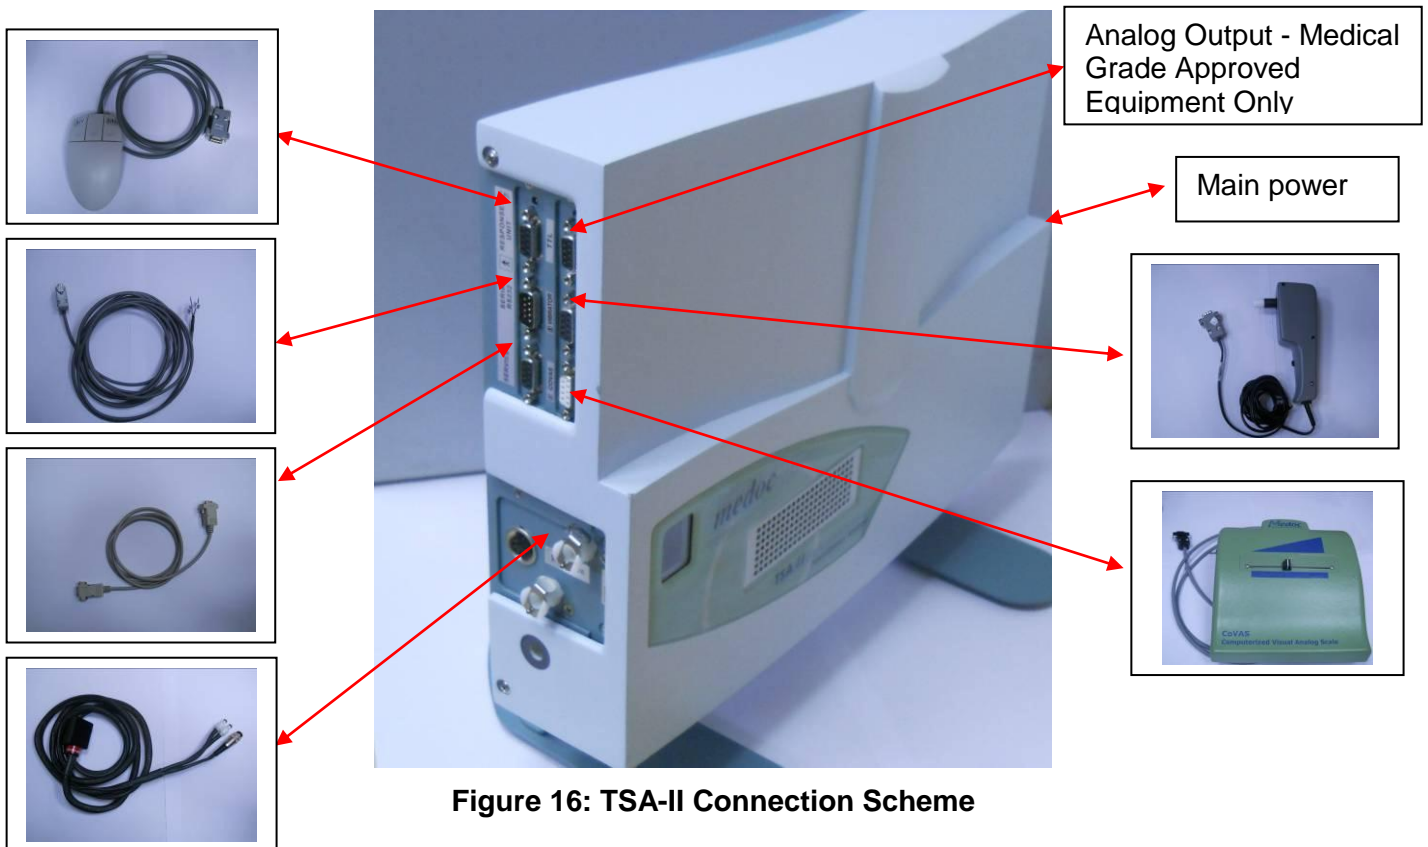
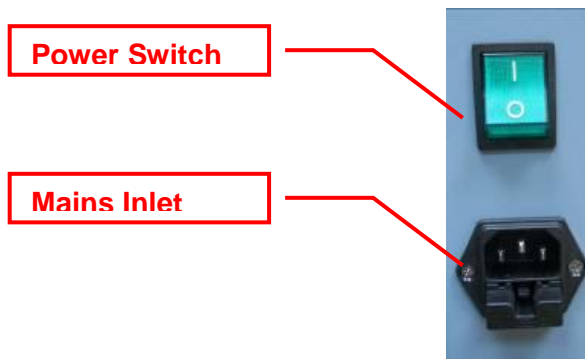

Figure 16: TSA-II Connection Scheme
Figure 17: TSA-II Power Inlet
4. Connect the system, Thermodes and accessories according to your application. see Figure 16 and Figure 17.